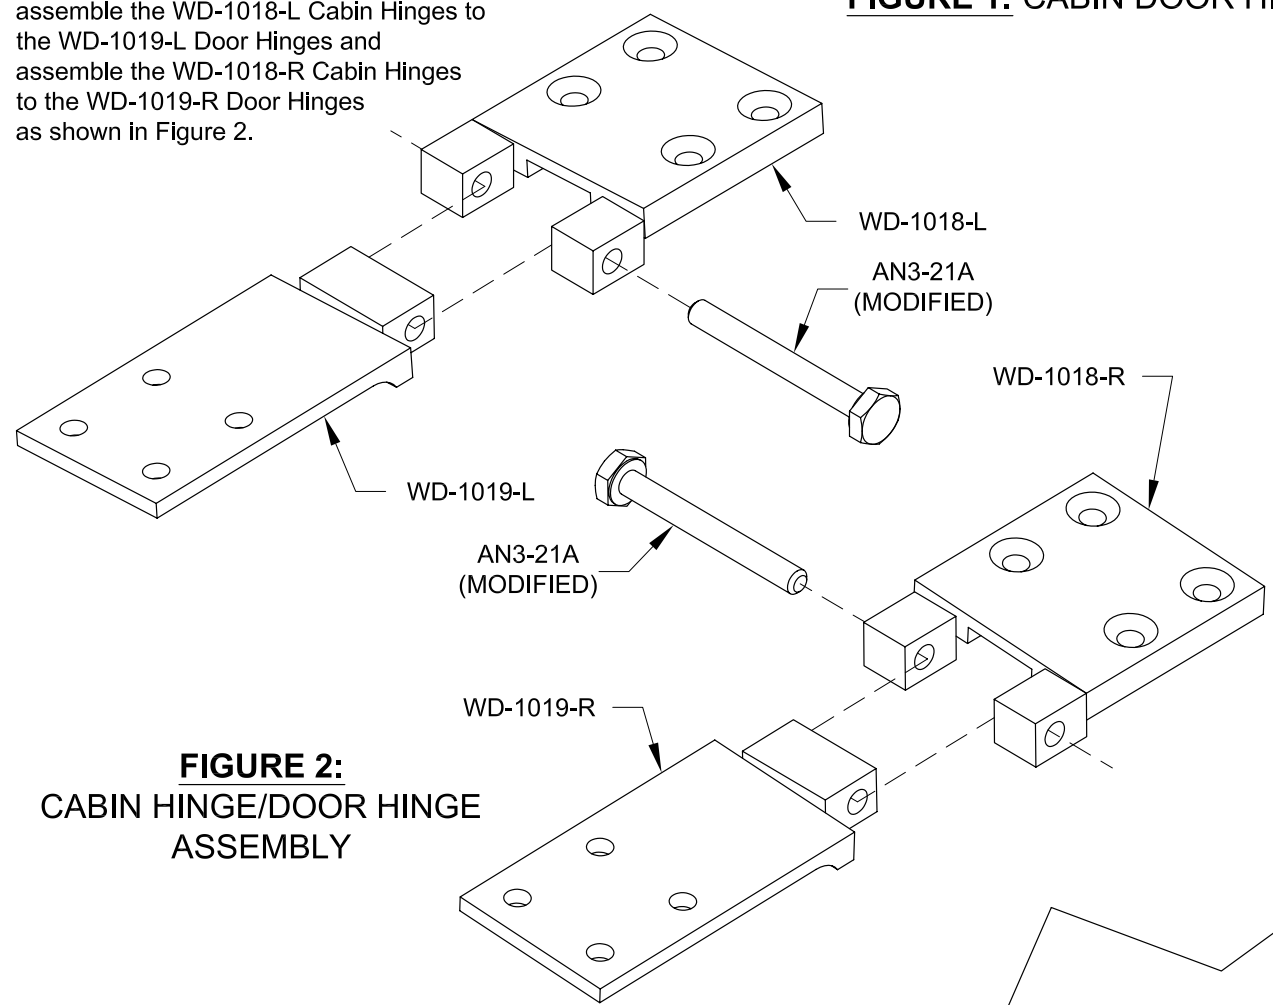

FIGURE 2: CABIN HINGE/DOOR HINGE ASSEMBLY
Step 2: Using the cut-off bolts as hinge pins, assemble the WD-1018-L Cabin Hinges to the WD-1019-L Door Hinges and assemble the WD-1018-R Cabin Hinges to the WD-1019-R Door Hinges as shown in Figure 2.